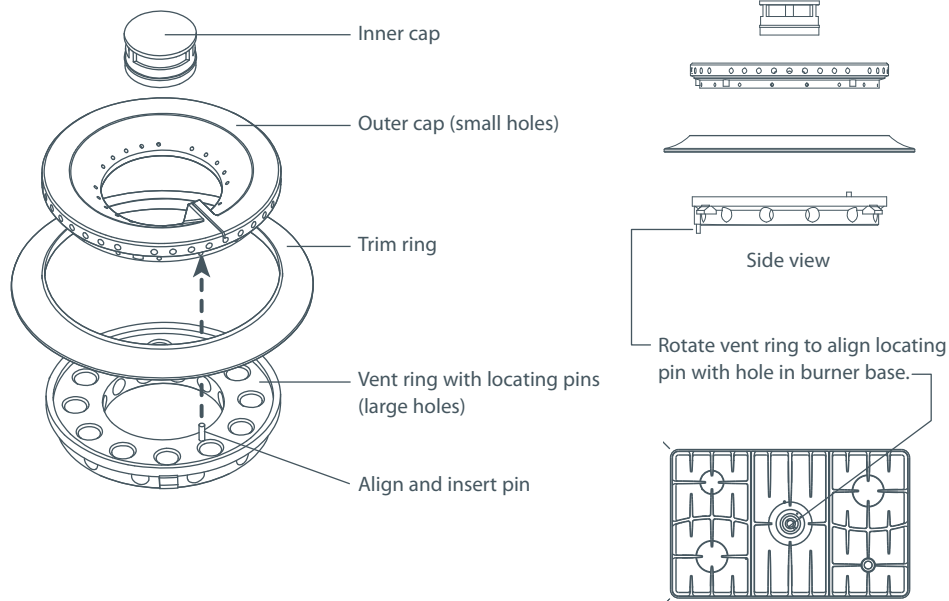

Fig.23 Correct positioning of brass wok burner parts (CG905DWAC models only)
- Each part of the brass wok burner has locating pins to help you to assemble it correctly after cleaning. See Fig.23 below.